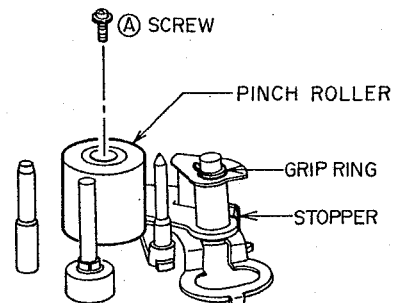

Fig. 3-17
- Remove the Ⓐ screw, then remove the PINCH ROLLER part, as shown in fig. 3-17